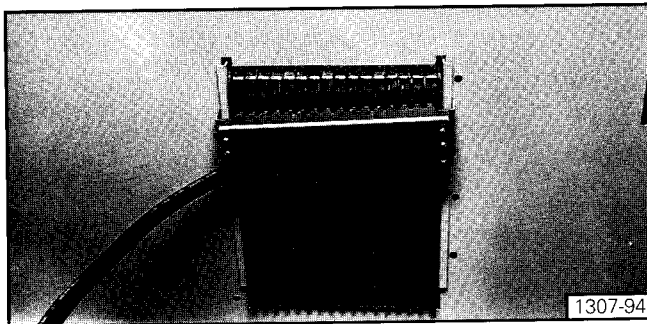

Figure 6. Split Plug Jumper Connected to Switchgear
3. Install the switchgear end of the plug jumper shown in **Figure 6** to the secondary disconnect block inside the switchgear cubicle. The jumper slides into place. The plug jumper interconnects all control power and signal leads (e.g., remote trip and close contacts) between the switchgear and the circuit breaker.